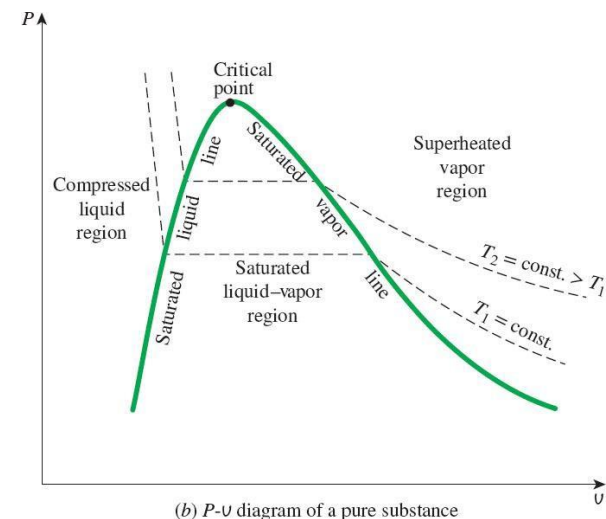

Figure 4-17: The $P - v$ property diagram of a pure substance.
- Same general shape as the $T - v$ diagram. Fig. 4-17.